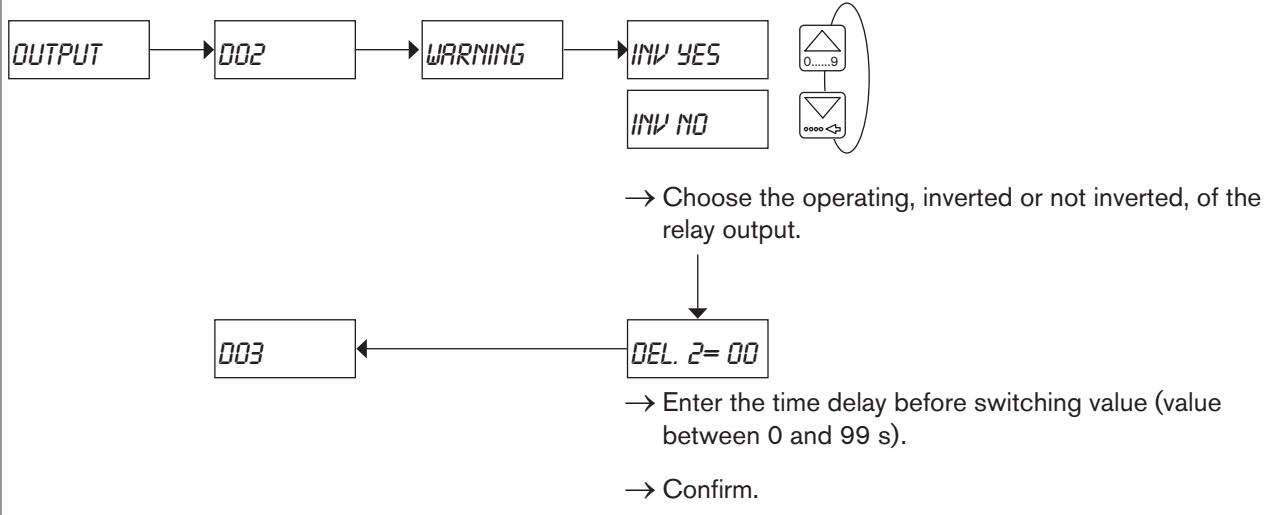

Fig. 42: Configuration of the DO2 or DO3 relay output to indicate the generation of a warning message
- to switch a load when a warning message is generated by the device. See “Fig. 42”.